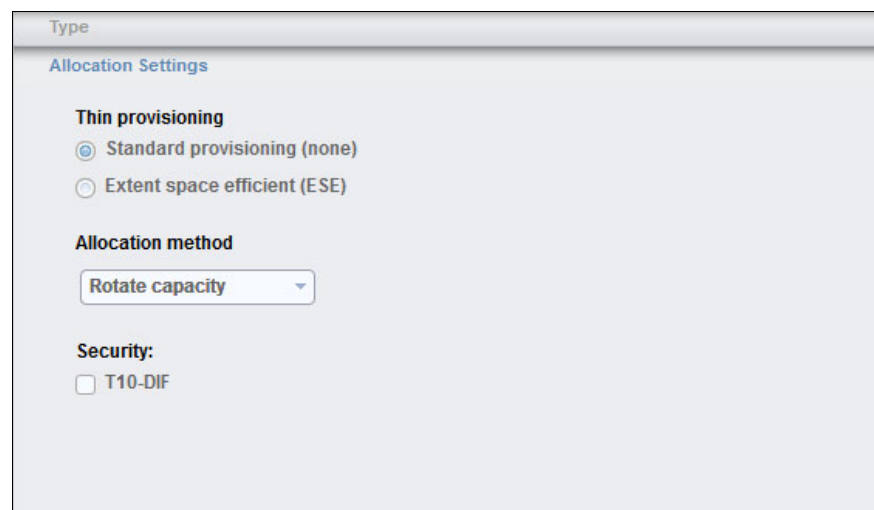

Figure 11-55 Advanced: FB volume creation: Allocation method
3. Select the option that you want, then click **Allocation Settings** to open the Allocation Settings window that is shown in Figure 11-55.
3. Select the type of thin provisioning (**Standard provisioning (none)** or **Extent space efficient (ESE)**), as shown in Figure 11-55 on page 320.